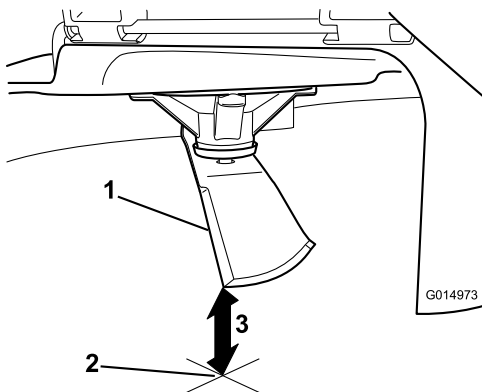

Figure 80
3. Measure from the tip of the blade to the flat surface (Figure 80).